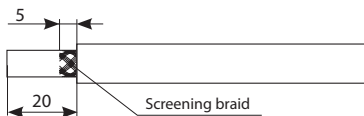

Figure 8
5.2.1. Cut off and remove the outer jacket from the far end segment of the heating tape. Cut off the braid screen leaving 5 mm (see Figure 8).